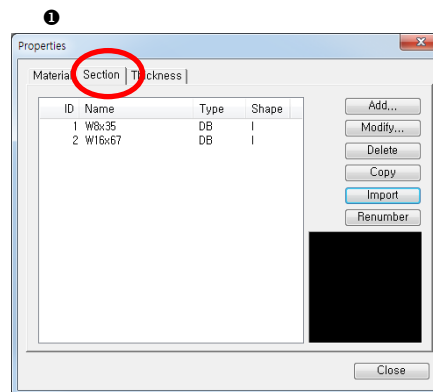

Figure 1.6 Dialog box for Section Properties
2. Click  shown in Fig.1.6.
8. Select the **Section** tab on the top of the **Properties** dialog box (Fig.1.6– ①). ☞
19. Click  in the **Properties** dialog box (Fig.1.6).